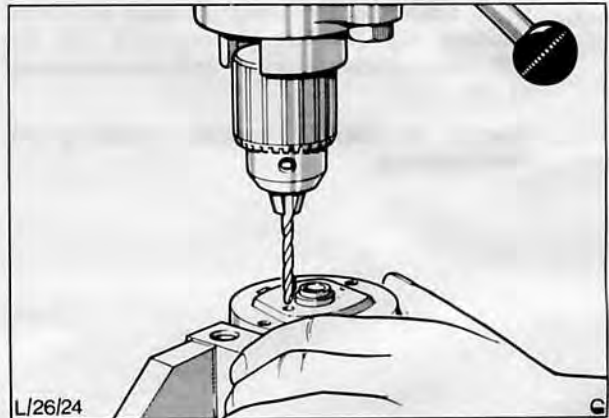

Fig. 42. Drilling out brush box securing rivets
11. To remove brush box drill out two rivets securing brush box to commutator end plate, Fig. 42, and remove brush and gasket.